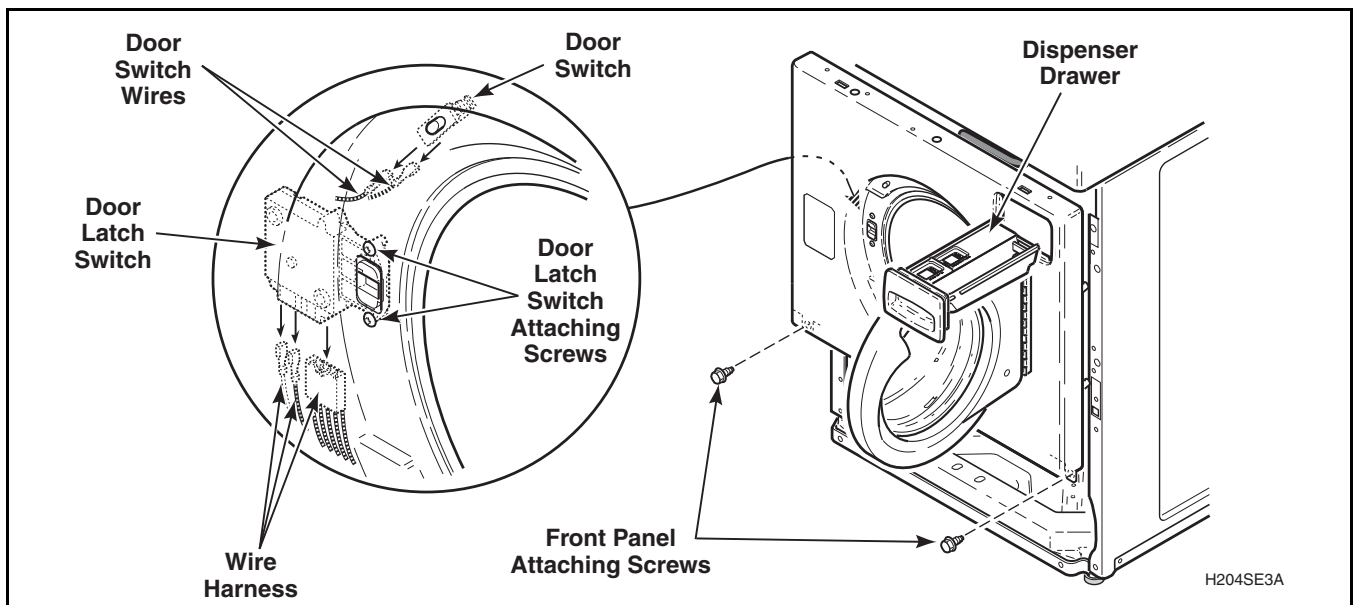

Figure 28
- Remove bottom two front panel attaching screws. Refer to *Figure 28*.
- Unplug wire harness from both the door latch switch and from the door switch. Refer to *Figure 28*. Remove clips holding wire harness and door seal hose along top flange of front panel and remove front panel.